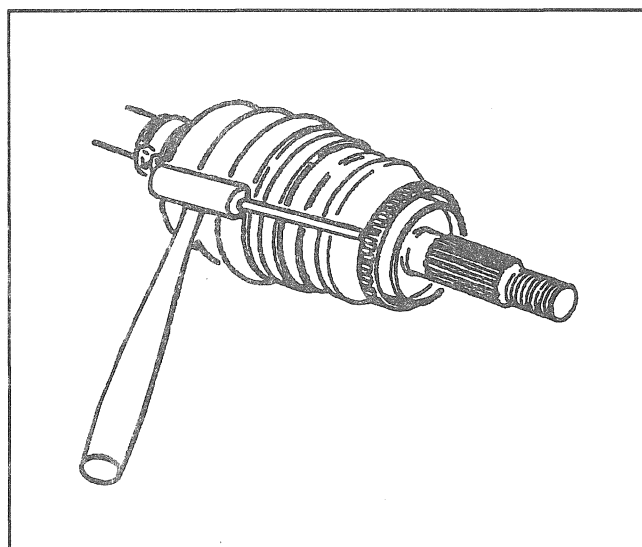

Figure 53—Removing ABS Sensor Ring
Remove or Disconnect (Figure 53)
2. Sensor ring with a drift (Figure 53).